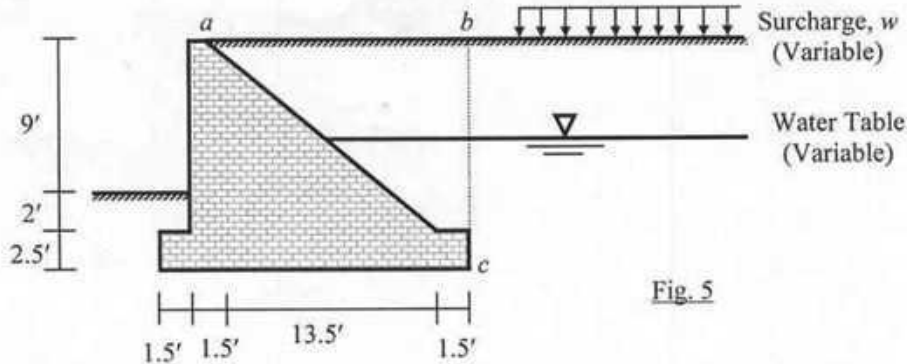

Fig. 5
9. Calculate the factor of safety against sliding and overturning for the retaining wall shown in Fig. 5, if